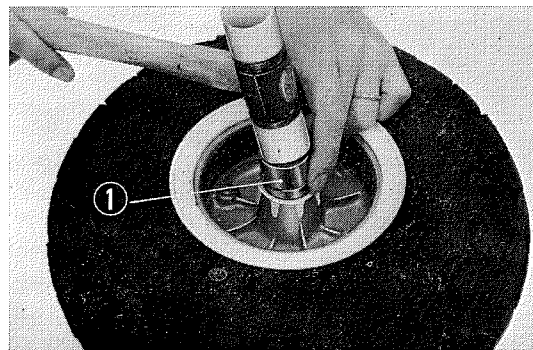

Fig. 60 Bearing installation
1. Apply grease to the wheel ball bearings and the inside of the wheel hub. Assemble distance collar and ball bearings into the wheel hub. (Fig. 60)